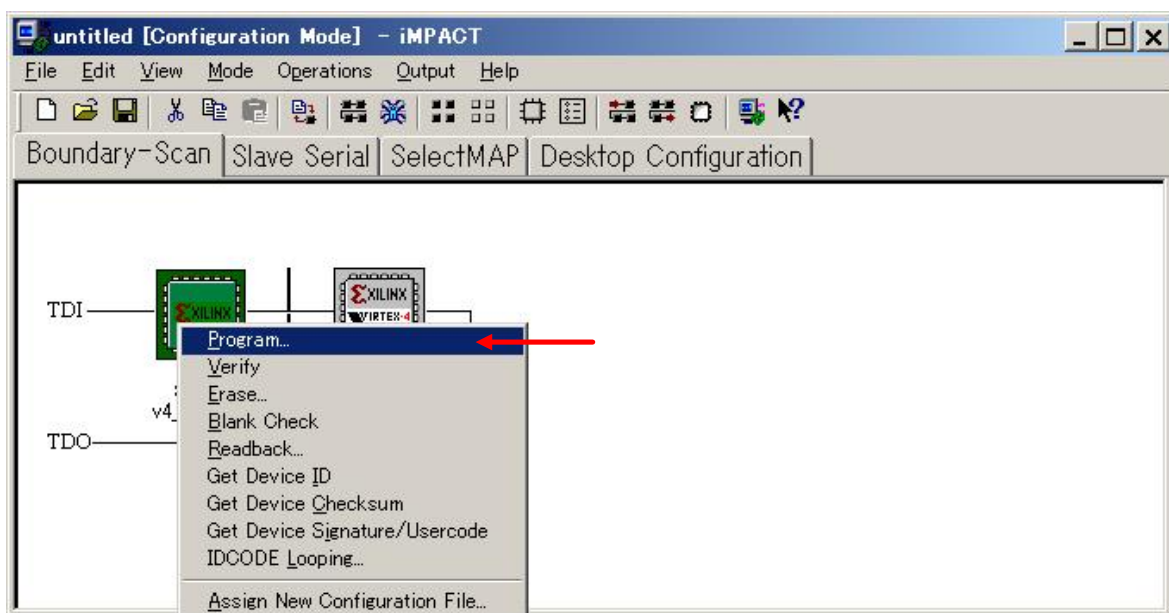

Figure.33
7) After selecting XCF08P(PROM) (it turns red), right-click to select Program... (Figure.33).